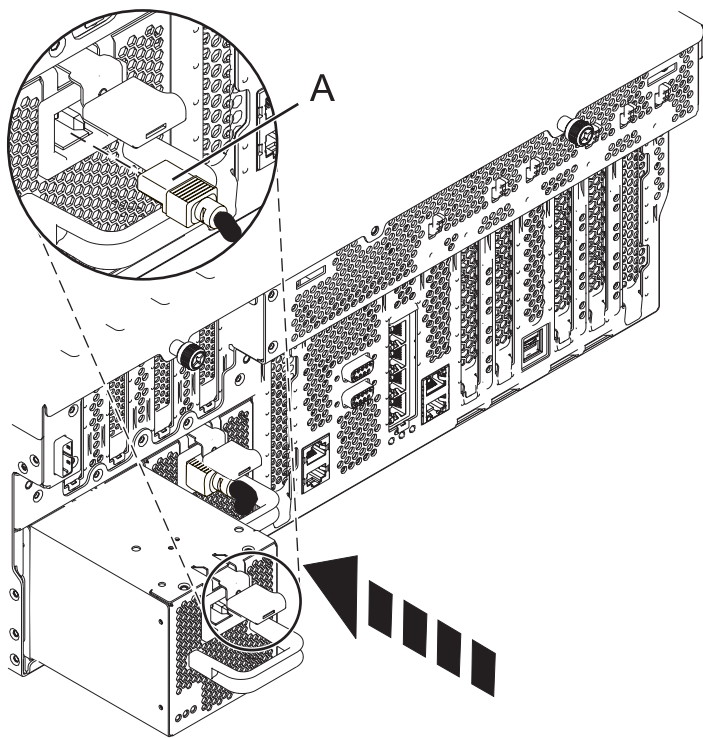

Figure 7. Replacing a power supply
2. Push the power supply into the system until the latch locks in place as shown in Figure 7 on page 10.
3. Reconnect the power cable (A) to the front of the power supply, as shown in Figure 7.